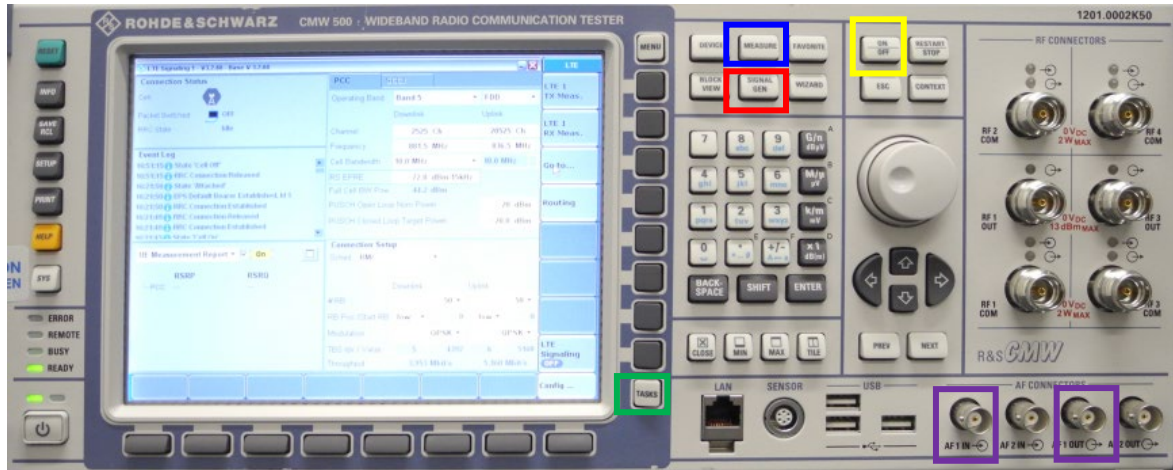
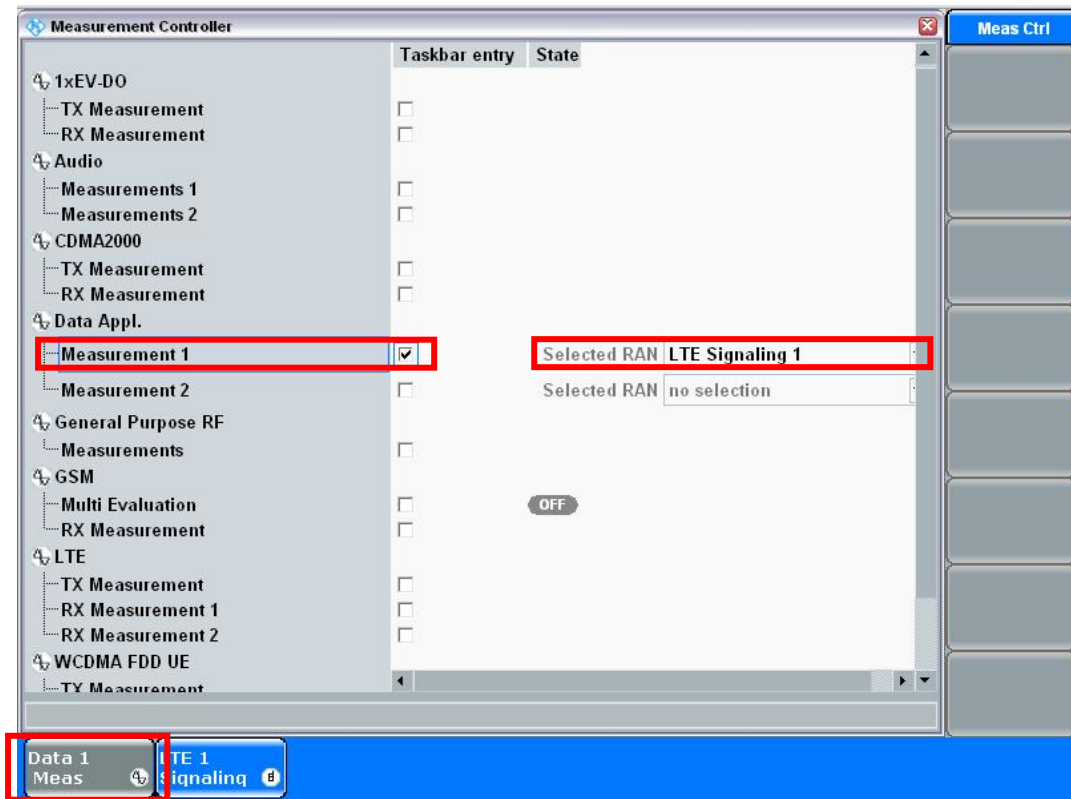
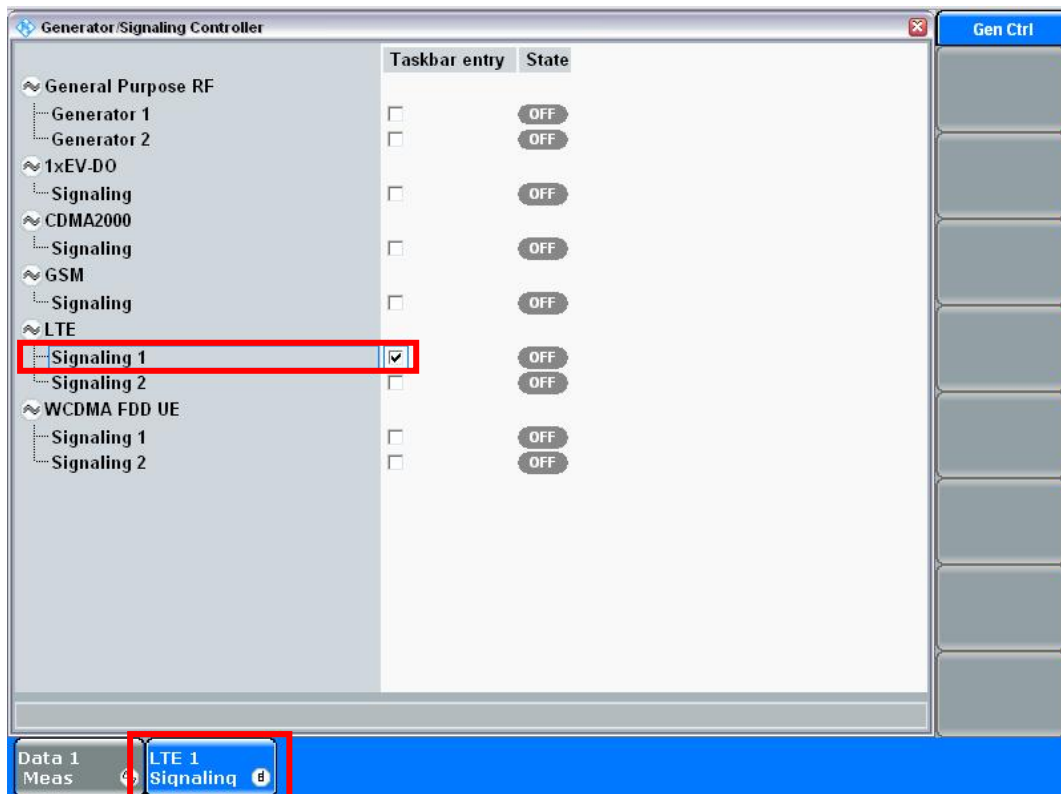

Figure 10: CMW500 front panel
Figure 12: Selecting Measurement Task
Figure 13: Selecting Signaling Task
1. Press the button **MEASURE** at the front panel of the CMW500 (blue box in Figure 10). Select **Data Appl.** → **Measurement 1** and **Selected RAN** → **LTE Signaling 1** (see Figure 12).
2. Press the button **SIGNAL GEN** (red box in Figure 10) and select **LTE Signaling 1** (see Figure 13).
To switch between Data Measurement and LTE Signaling press **TASKS** (green box in Figure 10).
3. Select **LTE Signaling** (Figure 13) and continue with section 2.4.2.
10. If all settings are configured correctly, switch on the LTE Signaling by pressing the button **ON/OFF** at the front panel (yellow box in Figure 10).
1. Press the button **MEASURE** at the front panel of the CMW500 (blue box in Figure 10) and select **Data Appl. Measurement 1** (see Figure 12).
2. Select the Task **Data 1 Meas** (lower part of Figure 12).
13. Start the IMS server by pressing the button **ON/OFF** at the front panel (**yellow** box in Figure 10).